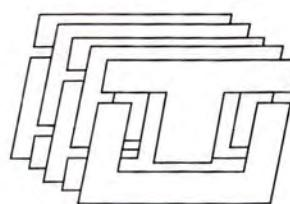

Fig. 10.35 Laminated iron core
**Construction :** A transformer consists of a rectangular soft iron core made up from the thin laminated sheets of soft iron of T and U shape, placed alternately one above the other and insulated from each other by a paint (or varnish) coating over them as shown in Fig. 10.35. This forms a simple rectangular core.